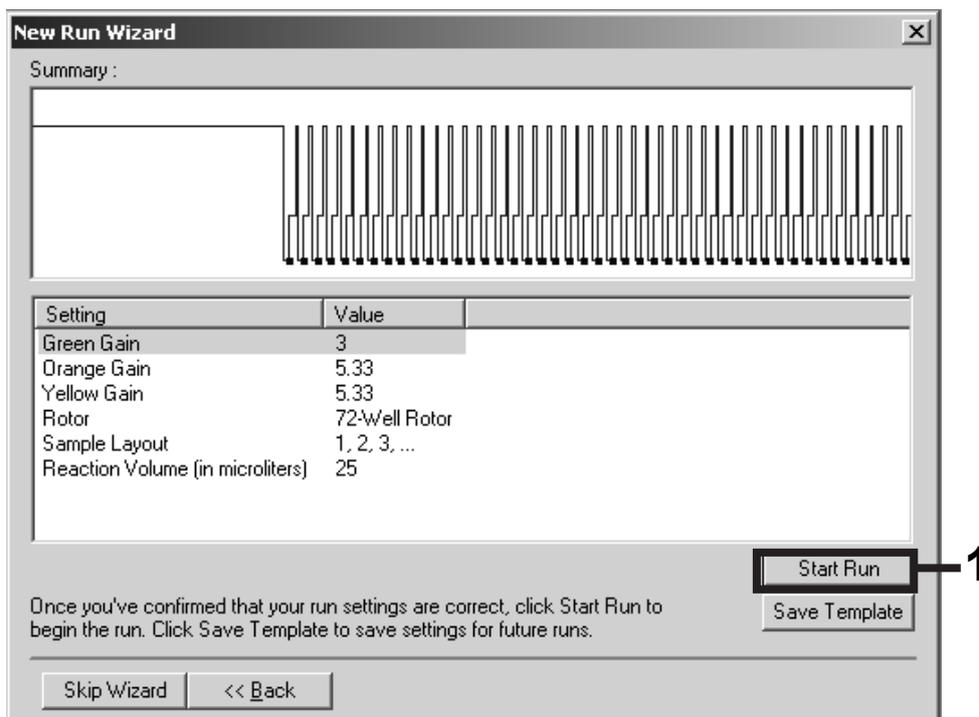

Figure 9. Starting the run.
- The gain values determined by the channel calibration are saved automatically and are listed in the last menu window of the programming procedure (Figure 9). Click "Start Run".